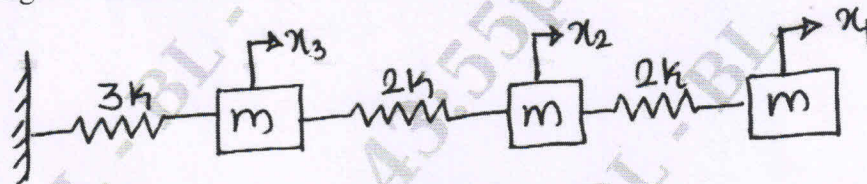

Fig.Q10
- 10 Determine the fundamental natural frequency and modal vector for the system shown in Fig.Q10. Using Stoddola's method.